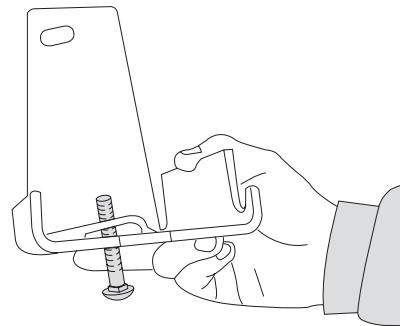

fig. 2
2. Insert a carriage bolt (H) up through the driver side upper bracket (B1). Refer to Figure 2.